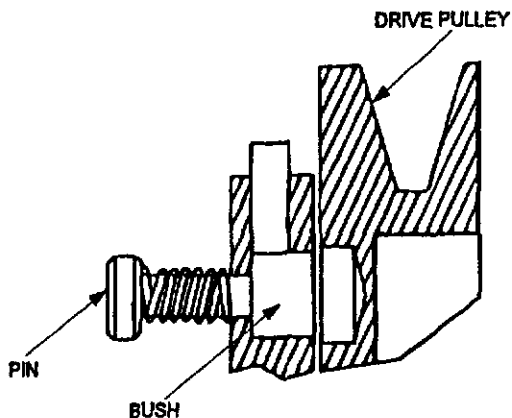

Figure 2-9 Air Compressor Drive
- a. Depress the pin on the front of the clutch (see Fig. 2-9), then rotate the clutch head until the pin locates in one of the four drive slots in the drive pulley.